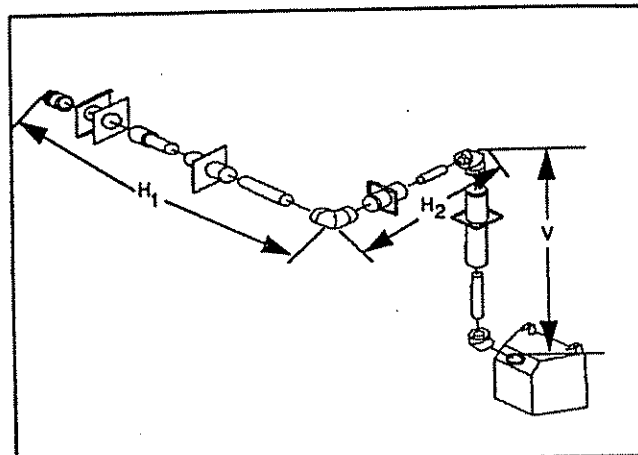

Fig. 7. Two (2) 90° elbows.
Figure 7 and Table 3 lists examples of possible venting systems using two (2) 90° elbows. V is listed as minimum vertical dimensions and  $H_1 + H_2$  is listed as total of maximum horizontal dimensions. Other combinations of two (2) 90° elbows in system may be used as long as there is 1 foot of vertical rise for each 4 feet of horizontal run. The maximum vertical and horizontal distances for two (2) 90° elbows as shown in Figure 7 are 20 feet.